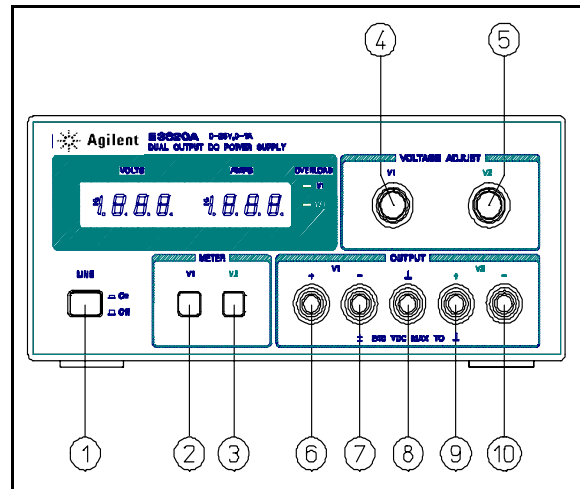

Figure 2. Front-Panel Controls and Indicators
The LINE pushbutton switch (①, Figure 2) is pushed-in to turn the supply ON and released (out position) to turn the supply OFF.
The following steps describe the use of the Model E3620A front panel controls illustrated in Figure 2 and serve as a brief check that the supply is operational. Follow this checkout procedure or the more detailed performance test of service information section when the instrument is received and before it is connected to any load equipment. Proceed to the more detailed performance test beginning in service information section if any difficulties are encountered.